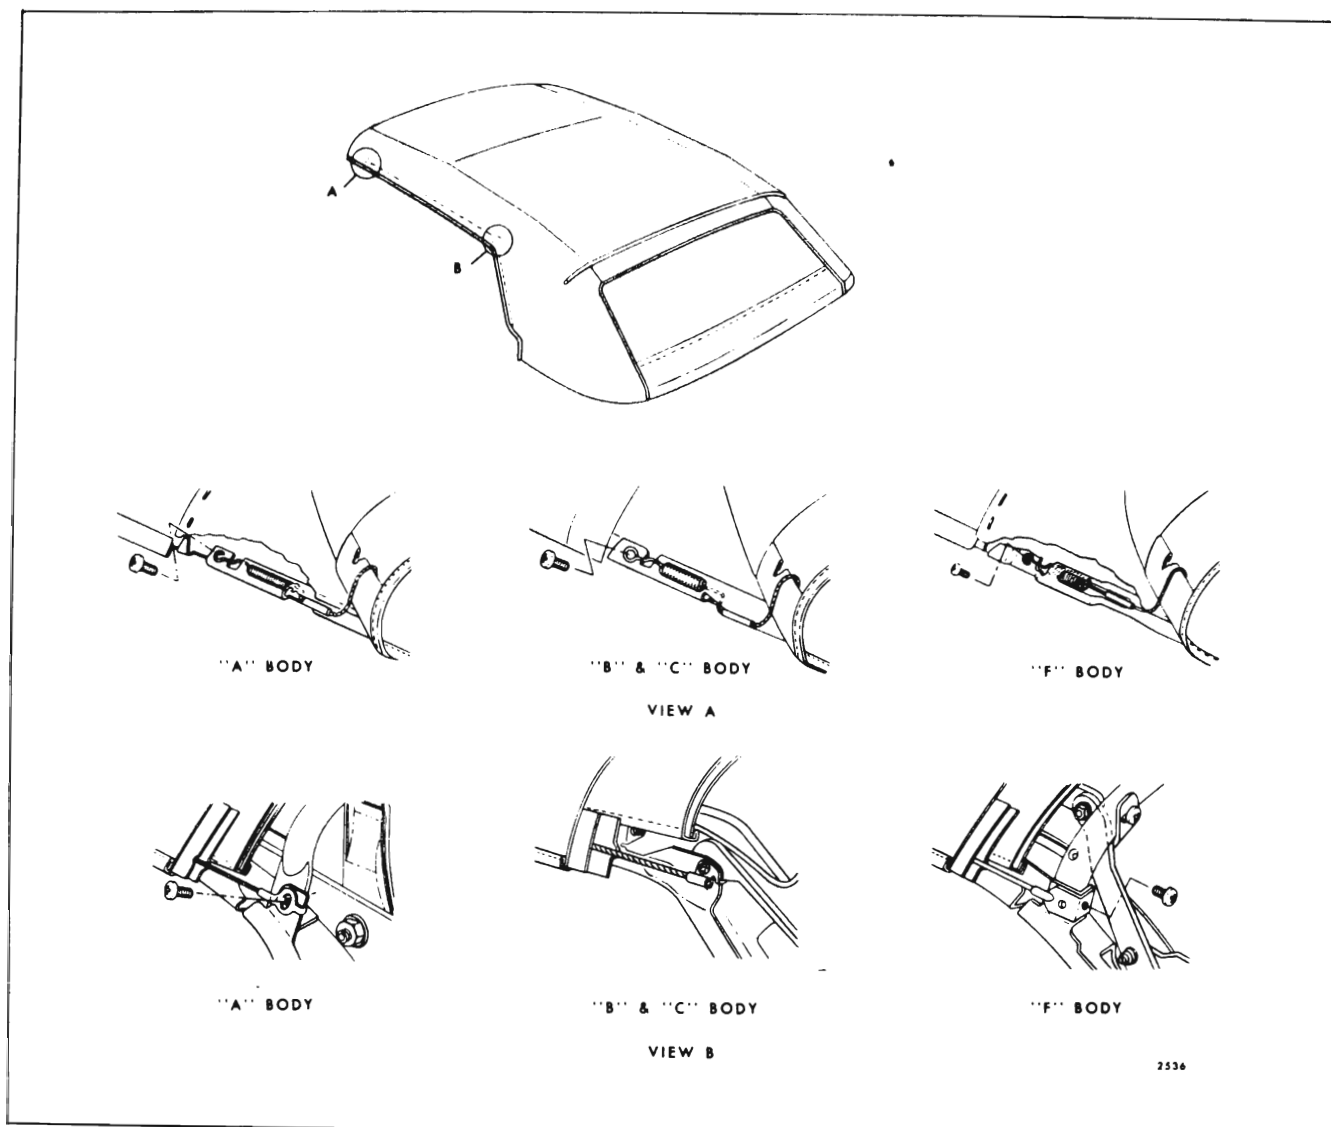

Fig. 13-3 — Convertible Top Material Hold Down Cable
13. At right and left side roof front and rear rails, remove hold-down cable front and rear attaching screws. (See Views "A and B" in Fig. 13-3).
pockets in top material, securely install front and rear cable attaching brackets to side roof front and rear rails (Fig. 13-3).